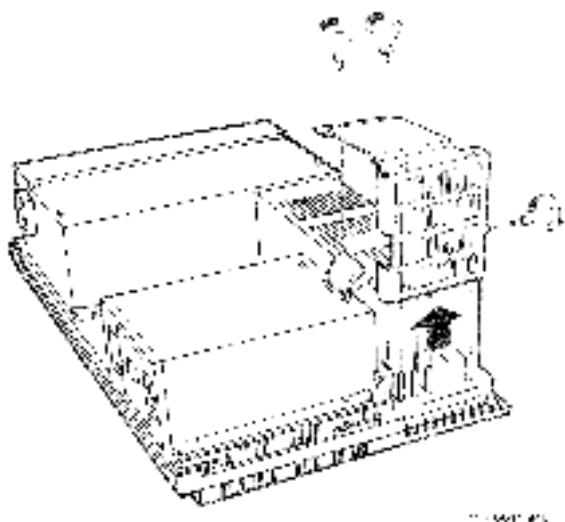

Figure 2.3.1 Shield Door Assembly
4. Remove the three screws that hold the combined card cage/shield door to the card cage. Then remove the entire shield door assembly by lifting it straight up (Figure 2.3.1).